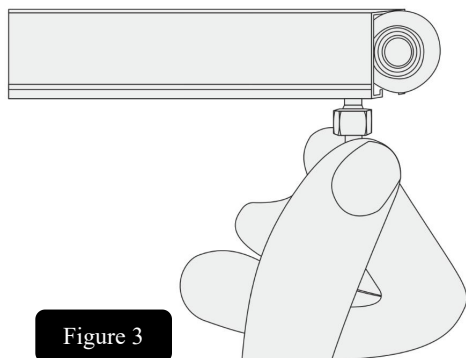

Figure 3
Step 3: Insert roller into the other end of track as shown (Figure 3).